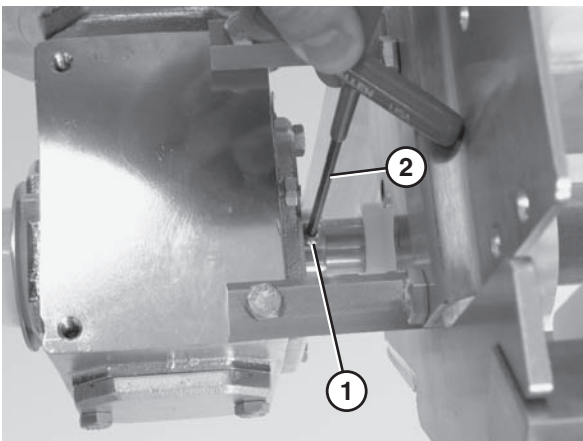

Figure 25
4. Loosen the drive spindle fasteners (**Figure 25, item 1**) located on the inside and outside of the gearmotor assembly using a hex wrench (**Figure 25, item 2**).